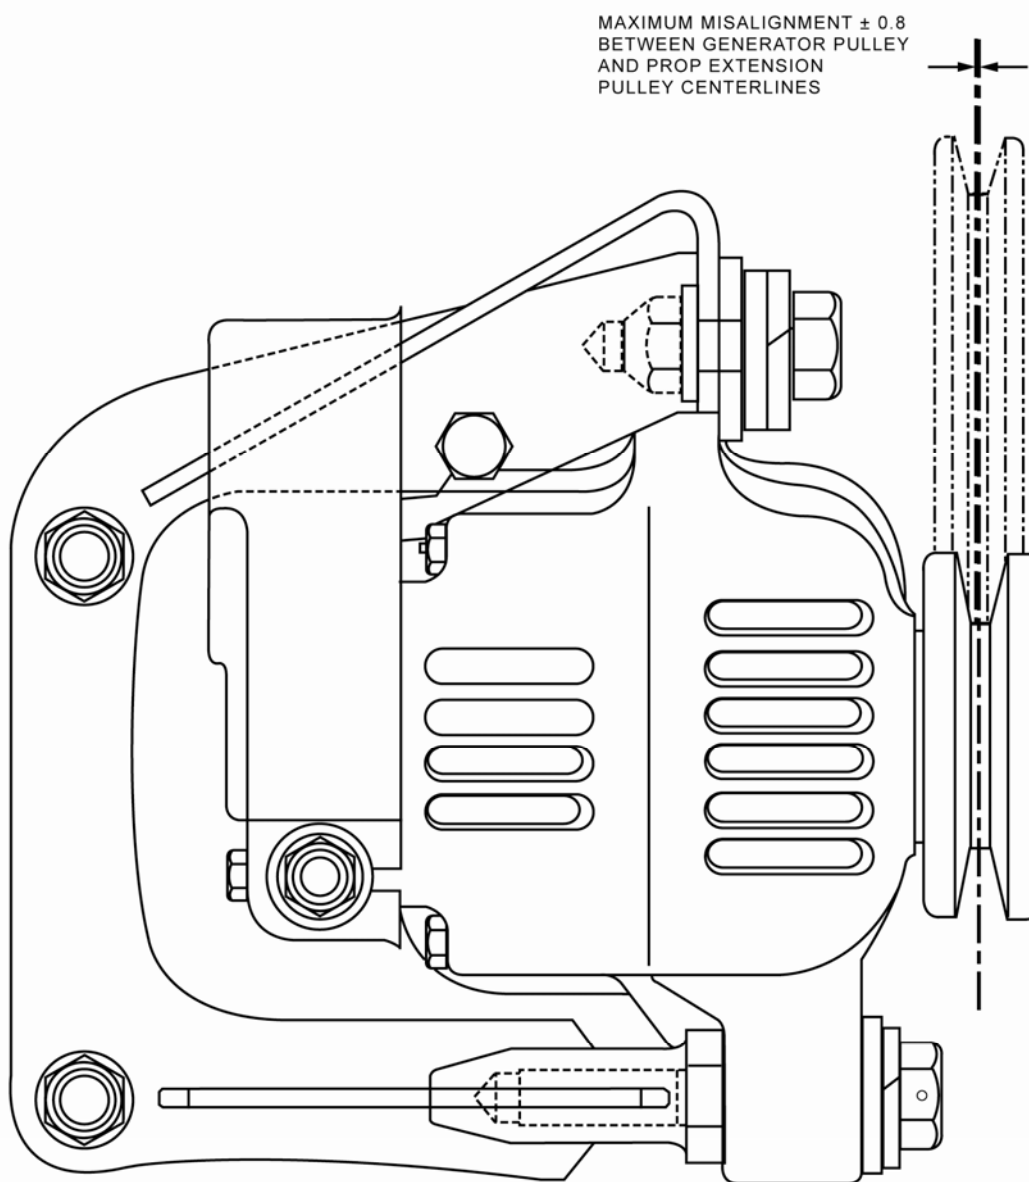

Figure 3 – Generator Alignment
- 10.17** Put the Generator in place for a trial fit. Make sure that the generator pulley and the prop extension pulley can be aligned. Adjust the mounting bracket as necessary. The misalignment between the generator pulley and the prop extension pulley is not to exceed  $\pm 0.8$  mm (0.031 in). Refer to Figure 3.